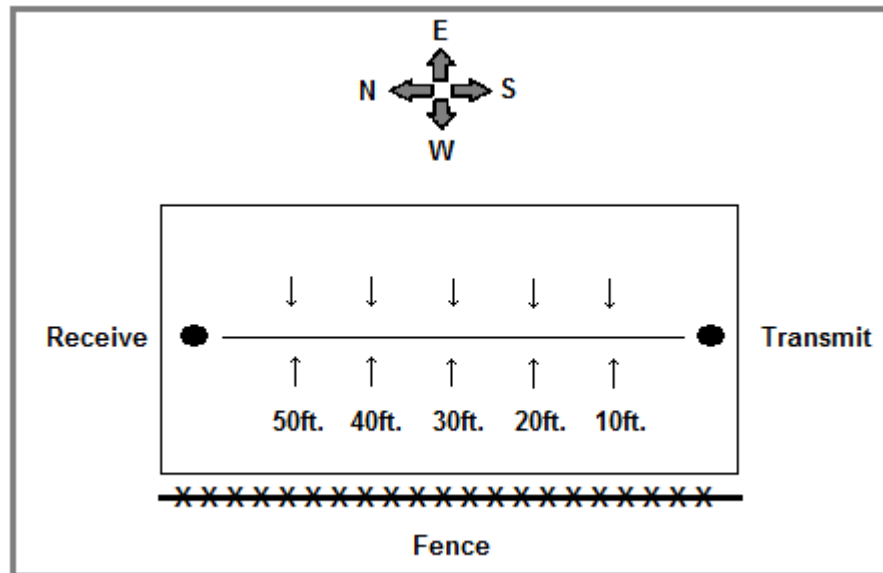

Figure 1: Test Locations
- Test locations for the microwave:** Because of time constraints, test locations have been determined for you (Table 1). Figure 1 shows test locations.